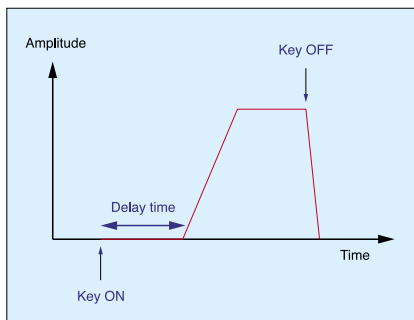

Figure 9: The HA(S)R contour generator.
I have added the (S) in my description to make it clear that the contour remains at its peak level once the Attack is complete and until you release the key (see Figure 9, left).